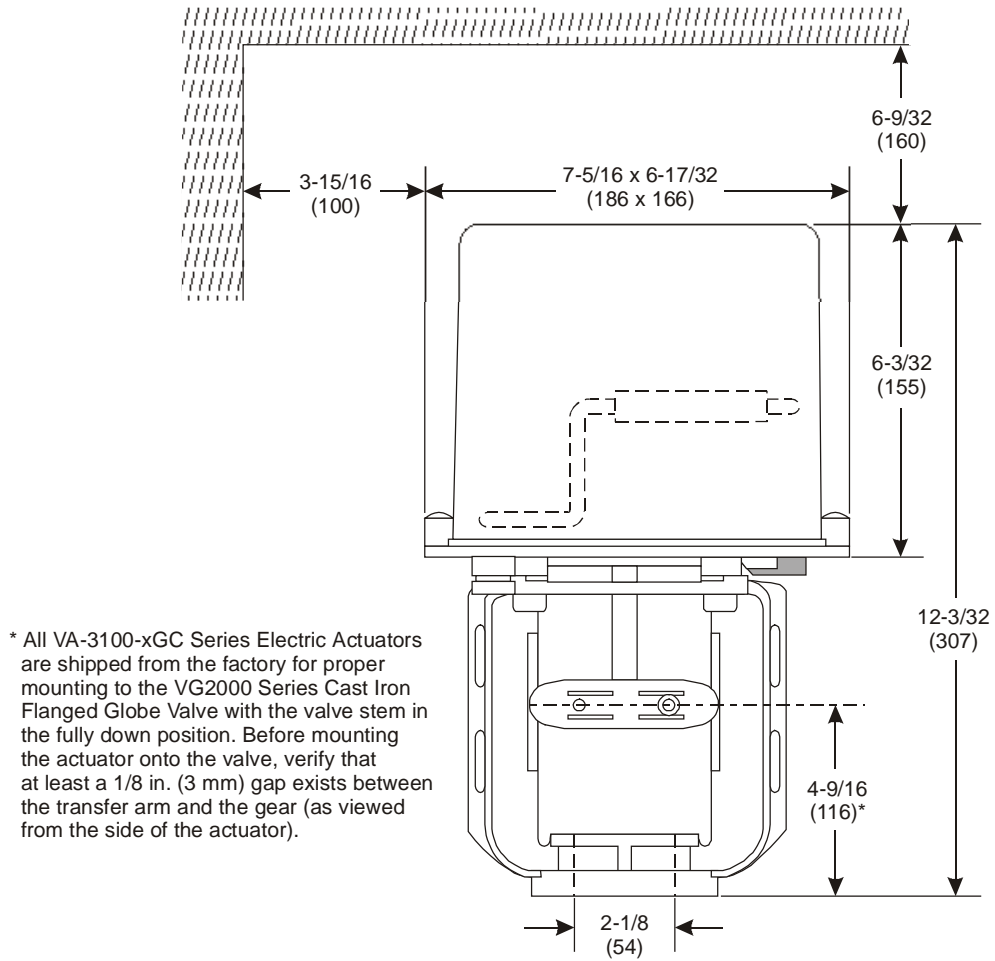

Figure 3: VA-3100 Series Electric Valve Actuator Dimensions, in. (mm)
- allow sufficient clearance to remove the actuator (as indicated in Figure 3)
7. Remove the actuator cover on VA-3100-AGC and VA-3100-HGC models only, and verify that the actuator stem is positioned at the 4-9/16 in. (116 mm) dimension as illustrated in Figure 3.